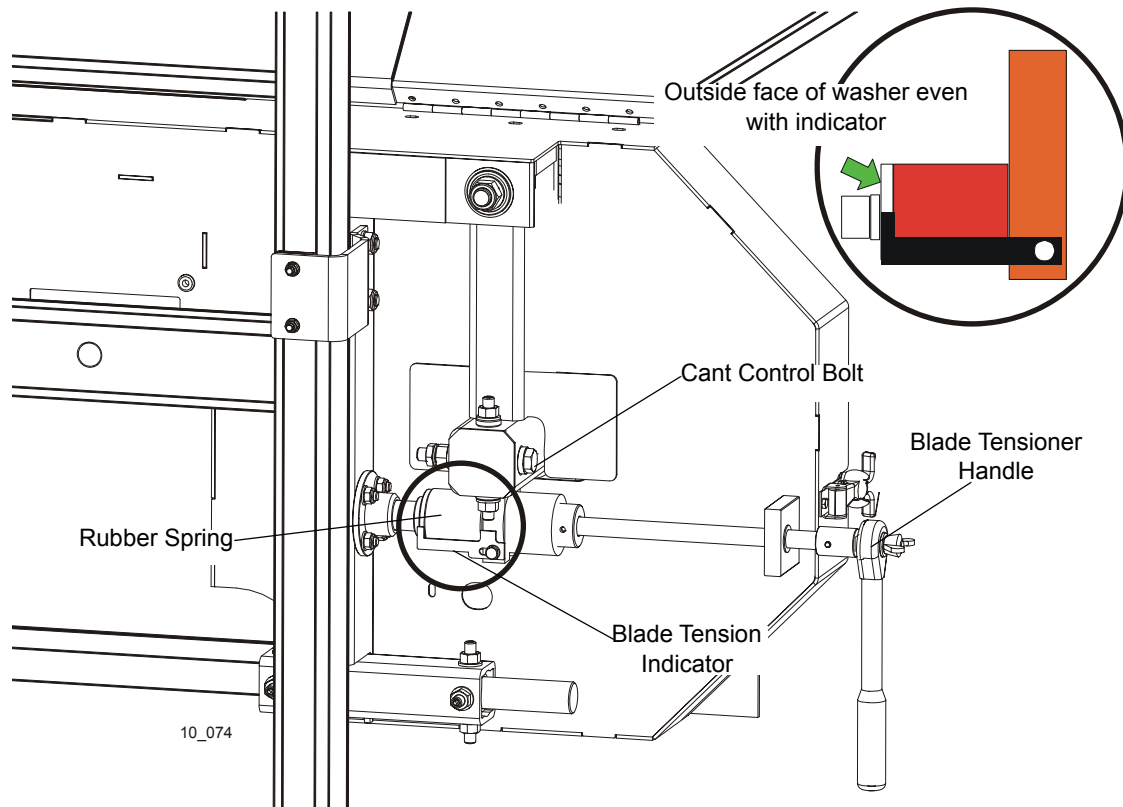

FIG. 3-6
**See Figure 3-6.** Turn the blade tension handle clockwise to compress the rubber spring and tension the blade. Check the blade tension occasionally when adjusting the cant control or while cutting. As the blade and belts heat up and stretch, the blade tension will change. Also, ambient temperature changes can cause tension to change. Adjust the tension handle as necessary to keep the rubber spring washer aligned with the indicator.